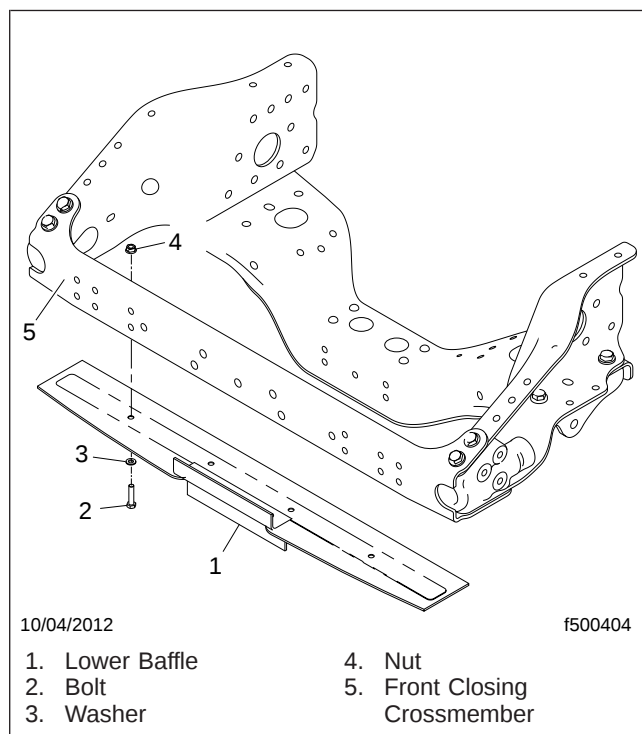

Fig. 10, Lower Baffle Installation
29. Install the new lower baffle on the front closing crossmember. See Fig. 10.